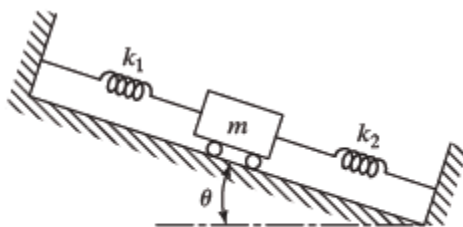

FIGURE 2.52
- 2.9 Find the natural frequency of vibration of a spring-mass system arranged on an inclined plane, as shown in Fig. 2.52.